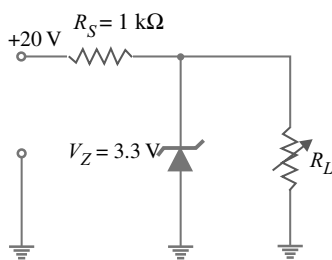

Fig. 15.32
2. The zener diode in Fig. 15.32 has values of  $I_{Z(\min)} = 3$  mA and  $I_{Z(\max)} = 100$  mA. What is the minimum allowable value of  $R_L$ ? [241  $\Omega$ ]